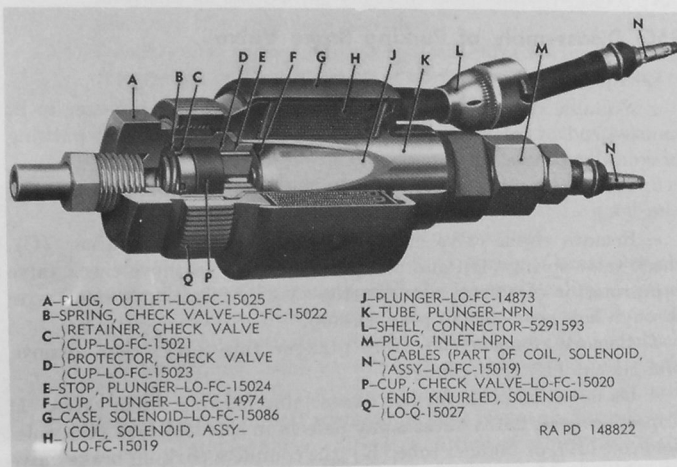

Figure 178. Cut-away section of temporary (electric) parking brake valve
Note. Key letters noted in parentheses are in figure 178.
*Note.* Key letters in text refer to figure 178.
*b.* With solenoid knurled end (Q) clamped in vise, remove outlet plug (A).
*c.* Remove check valve cup (P), check valve cup retainer (C), check valve spring (B), and plunger stop (E). Remove check valve cup protector (D) from plunger stop (E) by inserting a small wire through hole near edge of plunger stop.
*d.* Remove plunger (J) from plunger tube (K); then remove plunger cup (F) from plunger.
*e.* Do not attempt to further disassemble parking brake valve. If inspection (par. 251*b*) reveals any defects in solenoid case (G), solenoid coil (H), or plunger tube (K), the complete parking brake valve assembly must be replaced.
*Note.* Key letters noted in parenthesis are in figure 178.
*a. Cleaning.*—Wash all parts except solenoid, case, and tube assembly in denatured alcohol. Never use cleaning solutions containing petroleum products for cleaning hydraulic brake parts. Wipe or blow hydraulic brake fluid out of inside of plunger tube (K).
- (1) *Plunger and plunger cup.*—Examine face of plunger (J) around cup bore; surface must be smooth, and edge of cup bore must be sharp and free of nicks and burs. Face of plunger cup (F) must be smooth and without transverse grooves; concentric grooves, if small, are not harmful. Install cup in plunger; cup must extend at least 0.012 inch and
b. Place plunger stop (E) in solenoid end, with check valve cup bore facing open end.
c. Drop check valve cup protector (D) into check valve cup bore in plunger stop; then place check valve cup (P) in plunger stop with open end of cup facing outward.
d. Place check valve cup retainer (C) inside of check valve cup, install check valve spring (B) inside of retainer; then position outlet